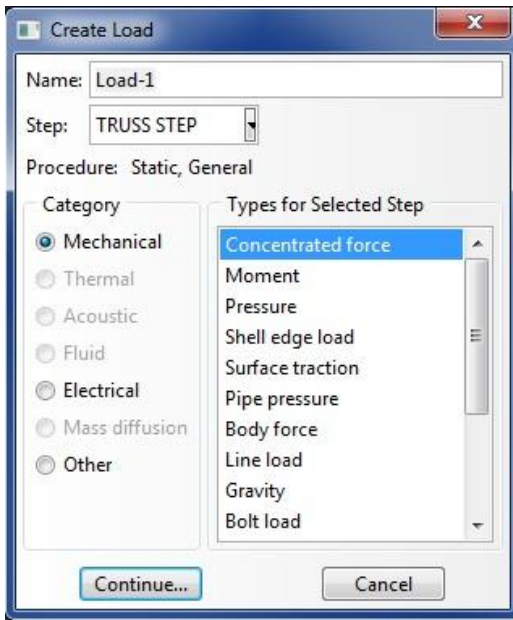

Figure 22a. Create Load Dialog Box
- A force of $F_x=1000$ lbs will be applied to the top node. Double click the **Loads** icon  in the model tree. The **Create Load** dialog box will appear (Figure 22a).